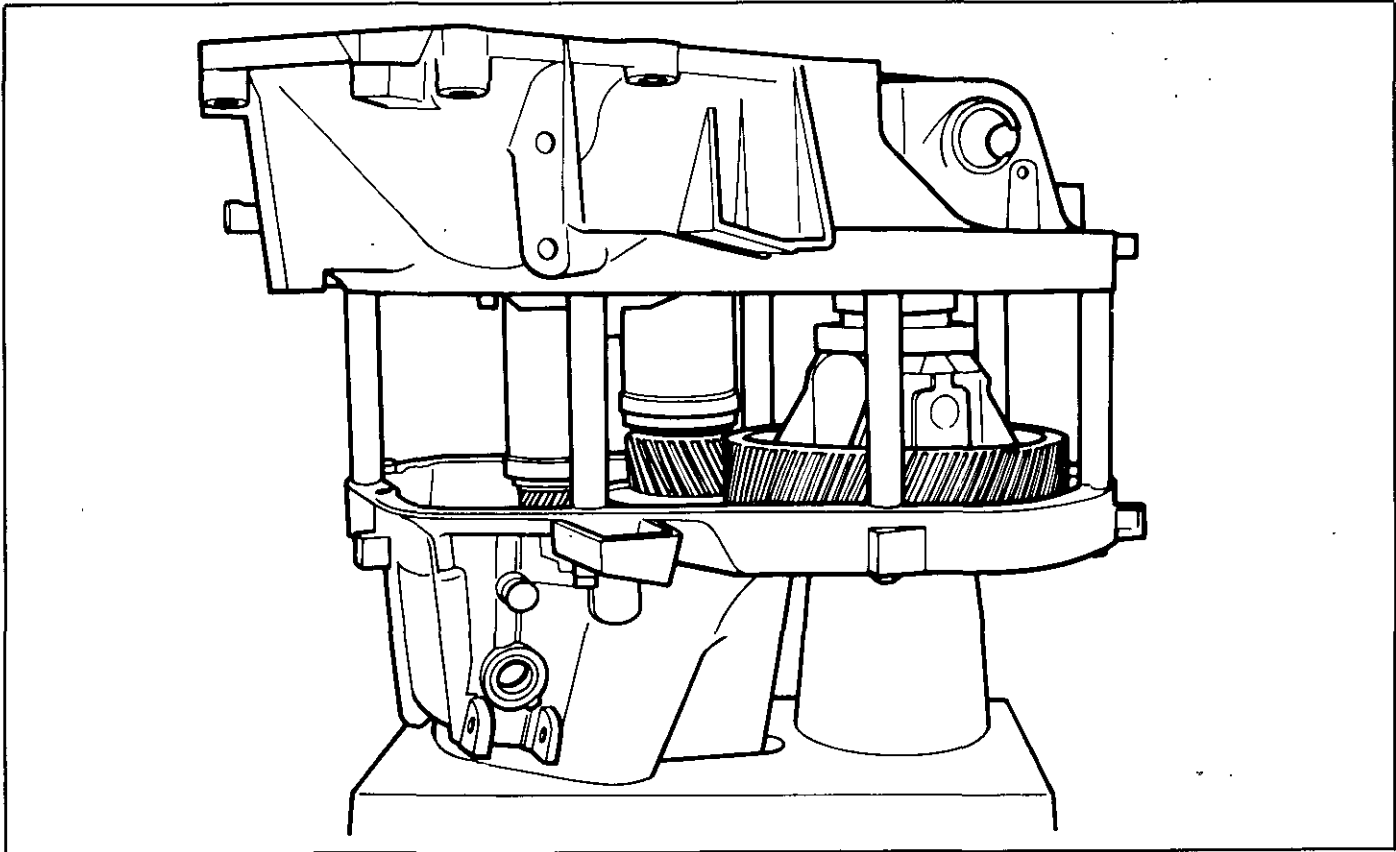

Figure 41 Compressing Gages
5. Carefully assemble the clutch cover over the (3) gages and onto the case, using (7) spacers placed evenly around the perimeter. Retain with bolts provided (Figure 41).